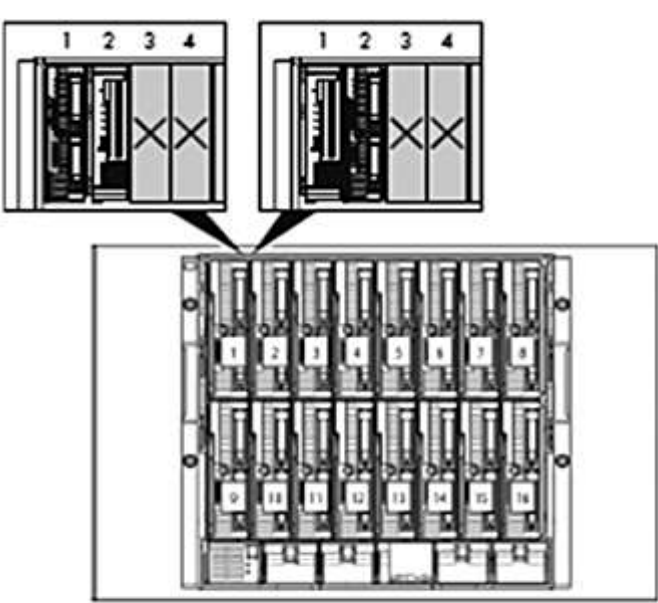

Figure 1 Installing an expansion blade adjacent to a half-height server blade.
1. One half-height partner server blade supports one expansion blade (Figure 1).